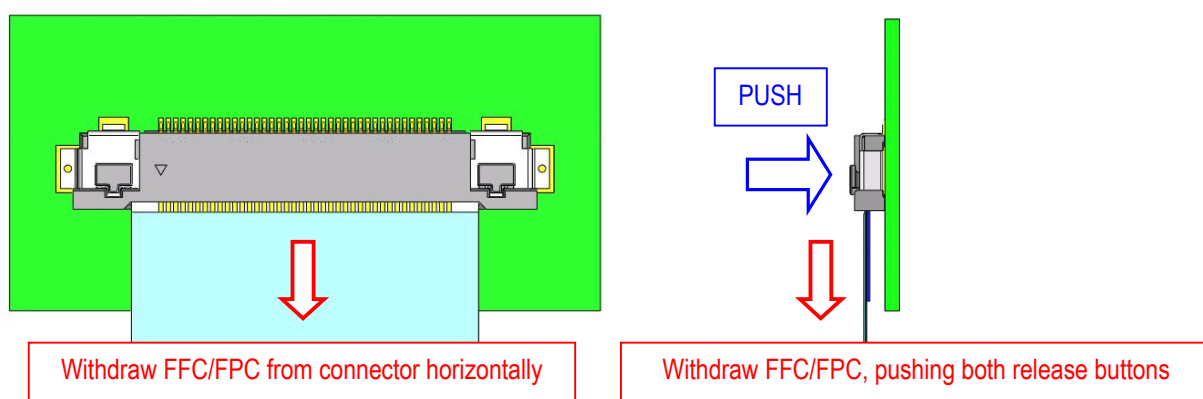

Fig. 3-4 FFC/FPC withdrawing method 3
- ③ Keeping the release button pressed, withdraw FFC/FPC from the connector horizontally. (Fig. 3-4)
Withdrawing with rotation (Fig. 3-4) may damage to FFC/FPC pattern, so please avoid as much as possible.